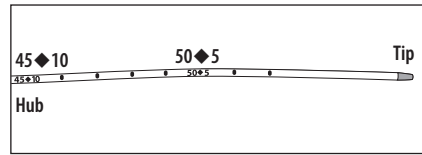

Figure 23
- Double numbering pattern (refer to Figure 23):